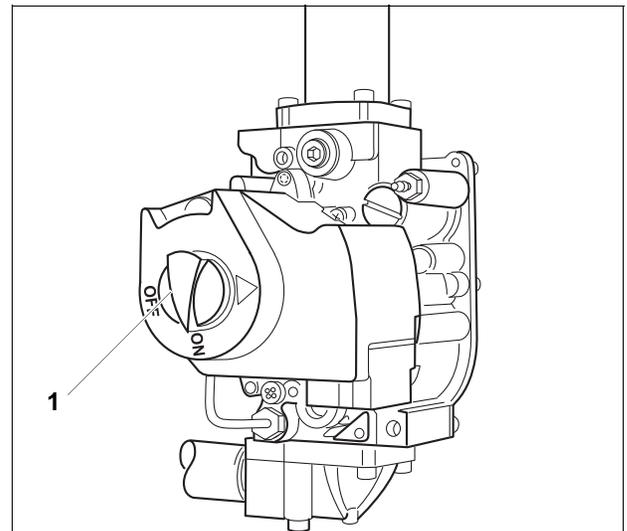

Fig. 2 Gas control
- C)** Use only your hand to turn the gas control knob (Fig.2. **Item.** 1). Never use tools. If the knob will not turn by hand, don't try to repair it, call a qualified service technician. Force or attempted repair may result in a fire explosion.
5. Turn the gas control knob clockwise to „OFF“ (Fig. 2, **Item. 1**). Do not force.
6. Wait five (5) minutes to clear out any gas. Then smell for gas, including near the floor. If you smell gas, STOP! Follow „B“ in the safety information, Chapter 2 „Lighting Instructions“, page 4. If you do not smell gas, go to the next step.
7. Turn the gas control knob counterclockwise to „ON“ (Fig. 2, **Item. 1**). Do not use force.
4. Turn the gas control knob clockwise to „OFF“ (Fig. 2, **Item. 1**). Do not use force.